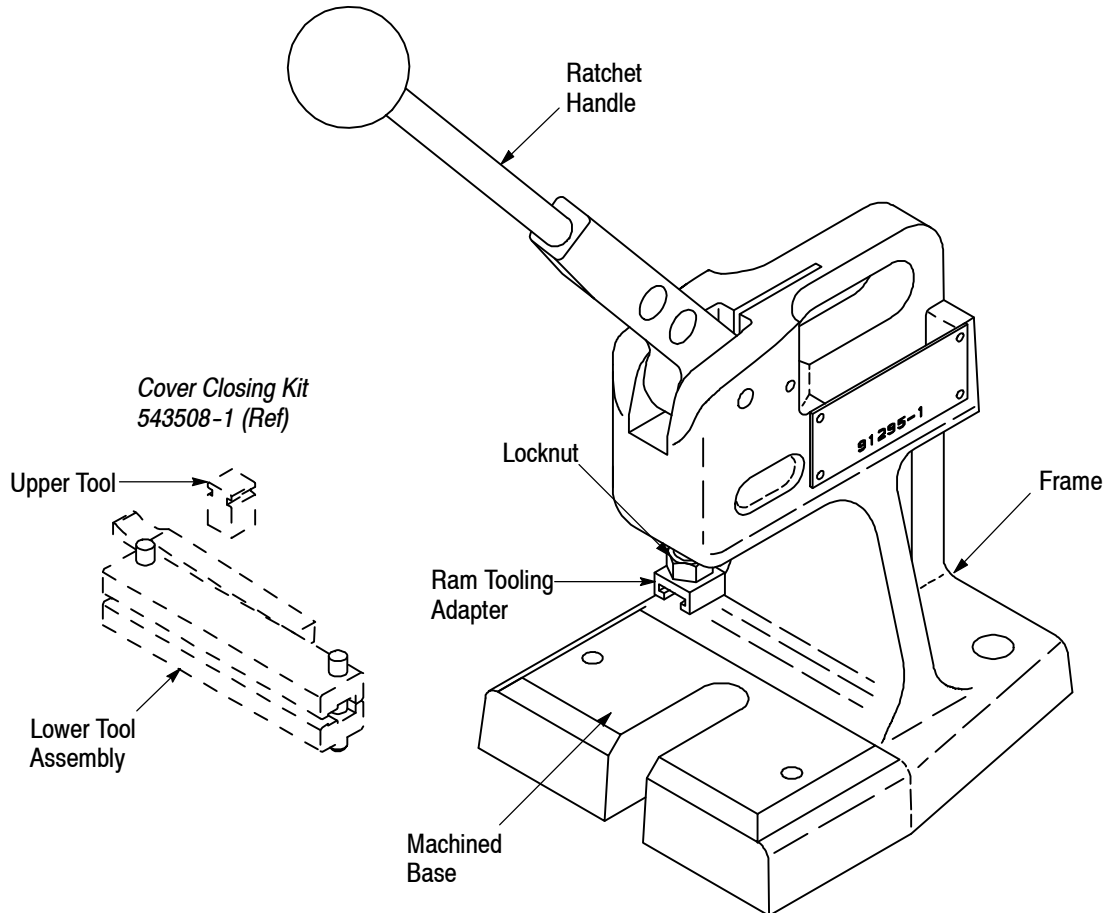
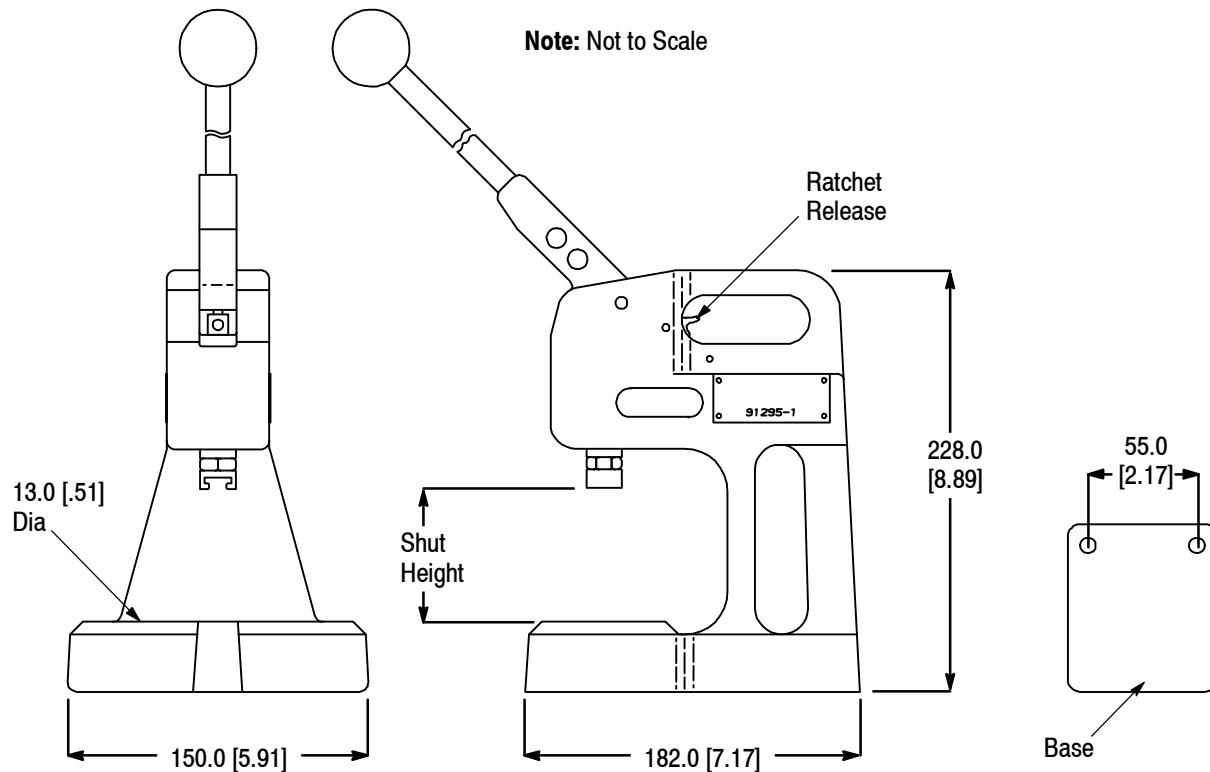

Figure 1
Figure 2
ram, and a ratchet handle. The ram holds the upper tooling and the machined base holds the lower tooling (example shown in Figure 1). The adjustable ram is used to regulate the ram height. The ratchet assures full seating of the product. Once engaged, the ratchet cannot be released until the steady downward movement of the handle is complete; then the ratchet releases and the handle is able to return to its original position. In case of a misaligned product, the ratchet release lever located behind the ram housing inside the frame handle opening can be used. See Figure 2. The frame assembly should be secured to a workbench to ensure stability during operation.
2. Turn the tooling mount to adjust to the proper recommended shut height (refer to Figure 2), then tighten the locknut to secure the adjustment.